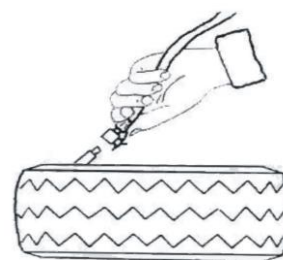

Fig 24
- 5) Inflate the tyre with break, while inflating, check the pressure listed on the pressure gauge, also check whether the bead is fixed or not. Repeat operation above until the bead is secured; you need take special steps when inflating convex rim or double convex rim; shown as Fig 24